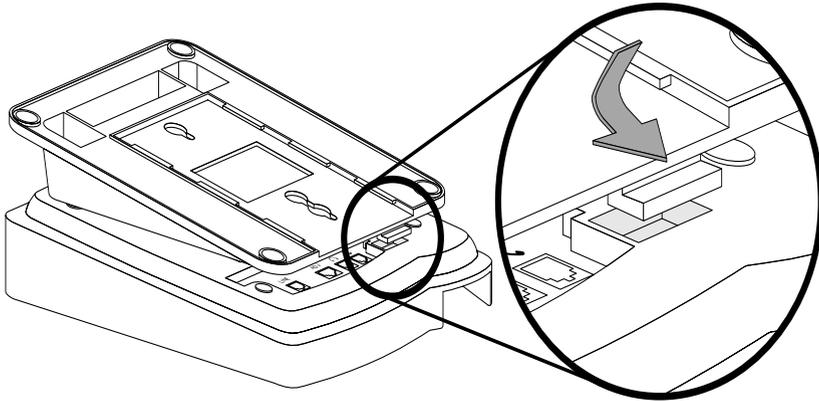

Figure 3-7. Connecting the Tab to the Top of the Telephone
2. Push up on the stand toward the top of the telephone, and place the tab on the thinner end of the stand into the slot at the top of the 4400-Series telephone, as shown in Figure 3-7.